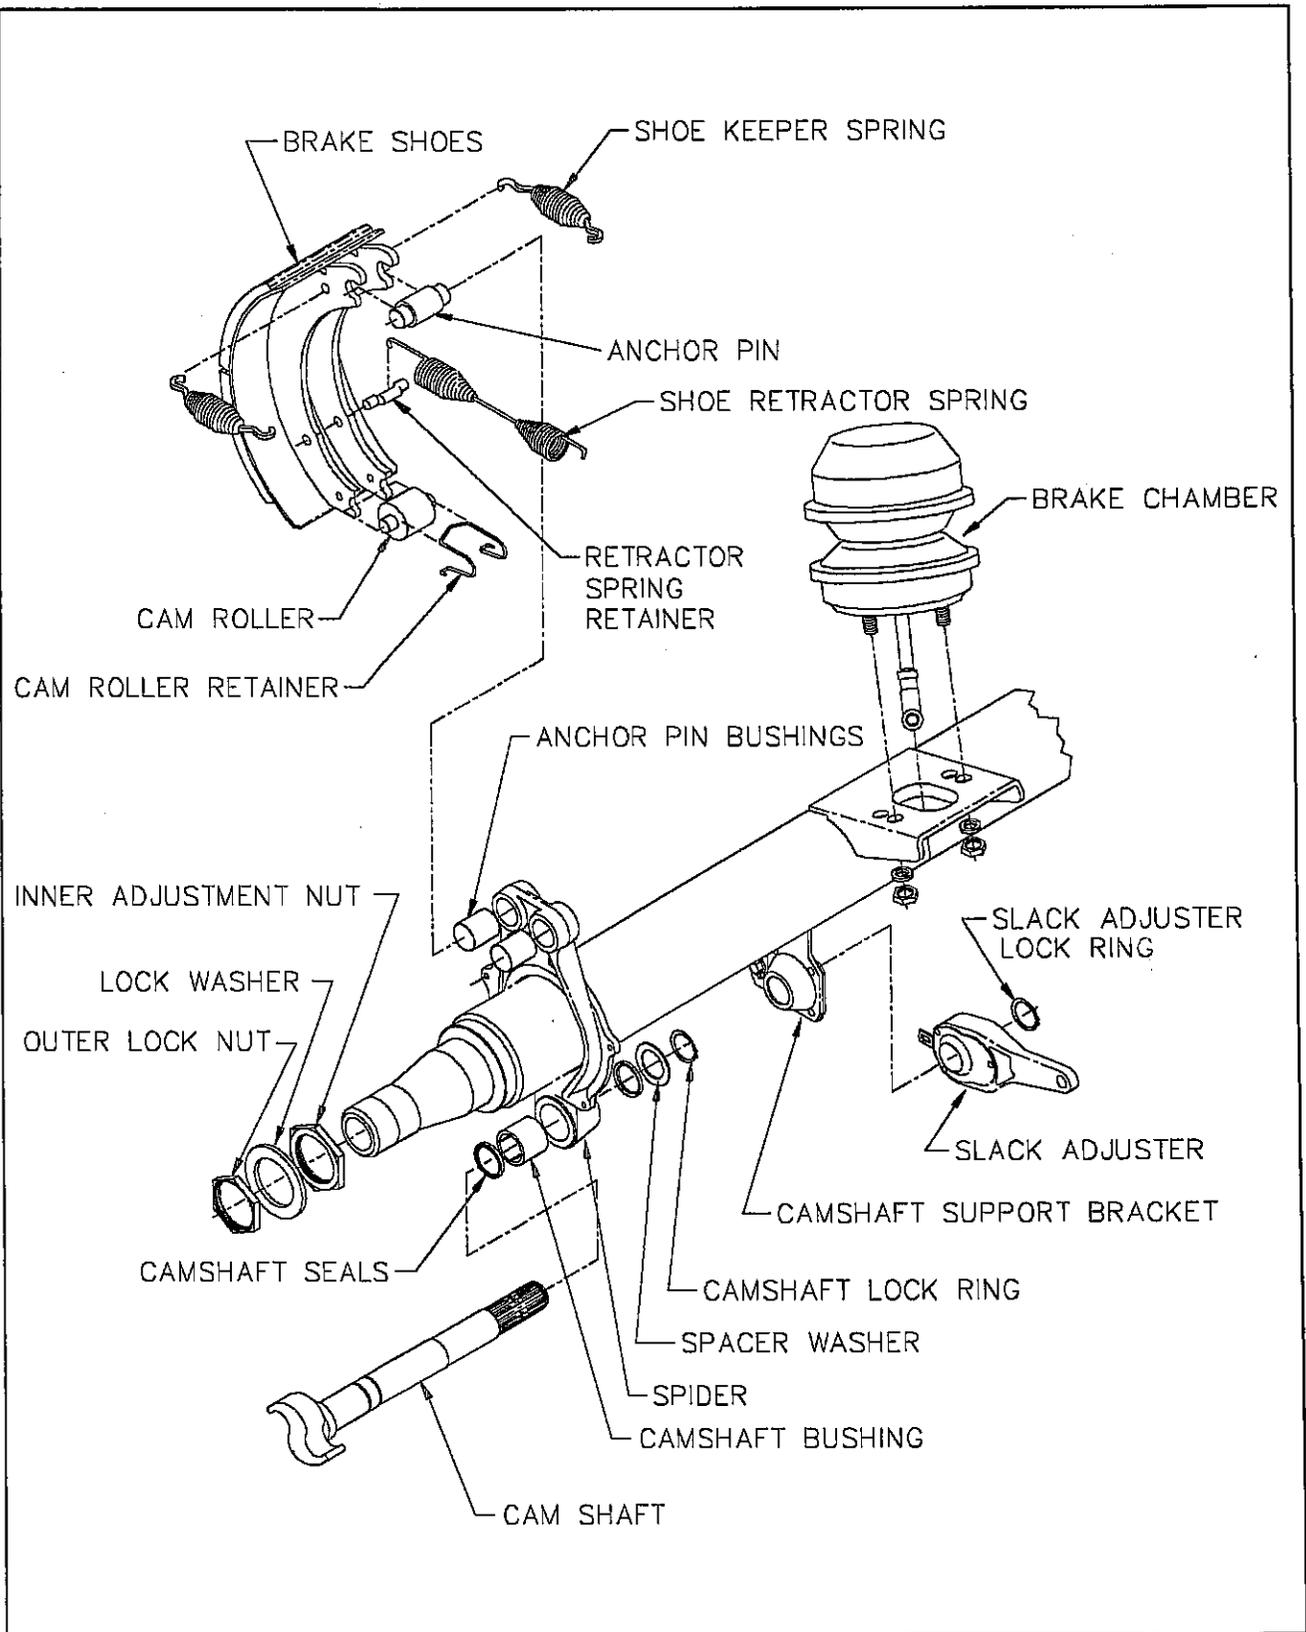

Fig. 4-3 Axle and Brake Assembly
b. Disassembly for 16-1/2"X7" Brakes (see Figure 4-3)
c. Reassembly for 16-1/2" X 7" Brakes (see Figure 4-3)
- d. Remove the outer spindle nut and locking washer (see Figure 4-3).